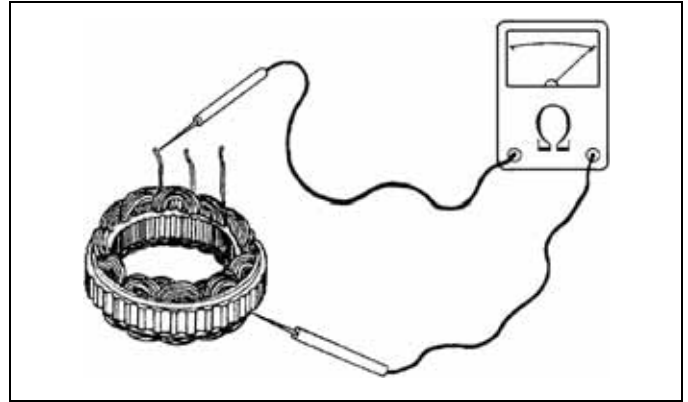

Fig. 5-19
- b. Check for continuity between any stator lead and stator core, page 5-8, Fig. 5-19. If there is continuity, the coil is grounded. Replace the stator assembly